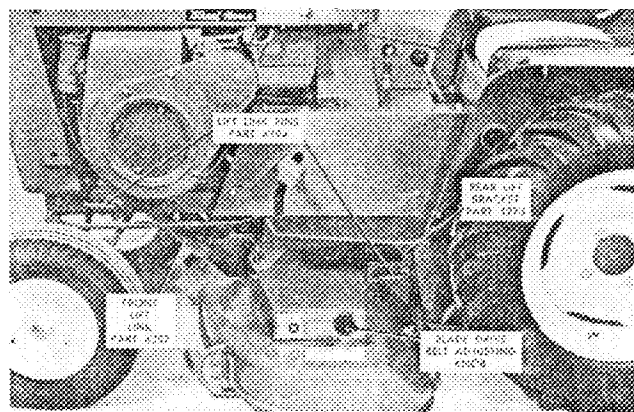
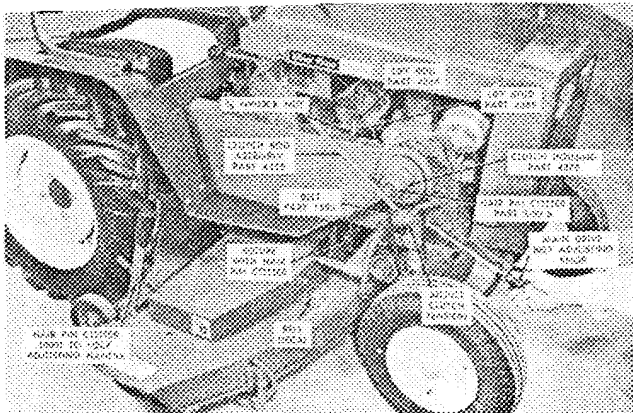

Figure 5
Figure 7
From the right side of the tractor, slide the mower underneath so that the front lift link is on center line of tractor. Place lift link in position between tractor frame. Insert lift link pin Part 4294 through lift link from left side of tractor as shown in Figure 5.
Swing the rear lift bracket down between the rear mounting brackets on mower deck. Insert the other lift link pin through center holes into rear mounting bracket and place pin handle into hole provided in bracket as shown in Figure 5. Secure with hair pin cotter, Part S-52-4.
Slip clutch housing, Part 4379, over clutch plate assembly as shown in Figure 7.
Install belt, Part 1595, as shown in Figure 7. Refer to belt decal on mower deck for arrangement. Adjust belt tension by tightening drive adjustment as shown.
Install clutch rod assembly, Part 4355, as shown in Figure 7 using (2) $\frac{3}{8}$ " nylock nuts, one on each side of the fork shaped rod end. Insert hair pin cotter, Part S-52-6 through clutch housing and into plate on clutch rod. (REFER TO OPERATING INSTRUCTIONS FOR CLUTCH ADJUSTMENT).
The height of cut is adjustable from a minimum of $1\frac{3}{8}$ " to a maximum of 4" by adjusting the gage wheels. The mower can be raised with the hydraulic lift, higher than 4" until the stops touch the frame. This is the transport position. The lock nut on the lift rod (Figure 7) should be adjusted to make sure both stops on the mower are firmly against the tractor frame with the hydraulic lift in the extreme up position.
The main drive belt, Part 1595 goes from the large groove of the engine mounting clutch, over two idler pulleys and then to the upper groove of the center pulley on the mower. (Refer to the belt arrangement as shown on the belt decal on the mower deck). Tension of this belt is adjusted by tightening knob (Figure 7). The blade drive belt, Part 1594, drives the three blades. The adjusting knob (Figure 5) located on the left side of the deck cover will tighten this belt. There is a spring under this knob which will compress as you tighten the knob. When the knob comes into solid contact with the tube which holds the spring, you will have proper belt tension. If this spring is visible at any time you should re-tighten the knob to compress the spring until the knob is again solidly against the tube. Do not tighten the knob more than one turn after it is against the tube or you will apply excessive tension to the belt. (Refer to belt arrangement as shown on the belt decal on mower deck, if you replace this belt.